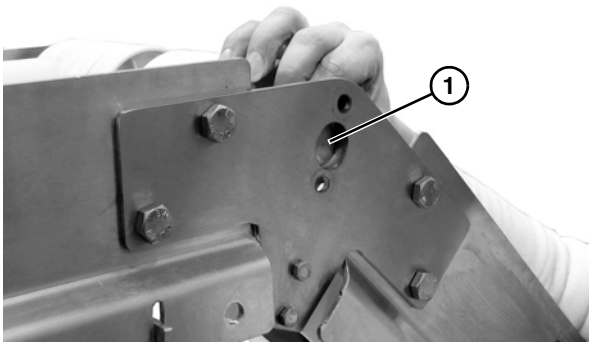
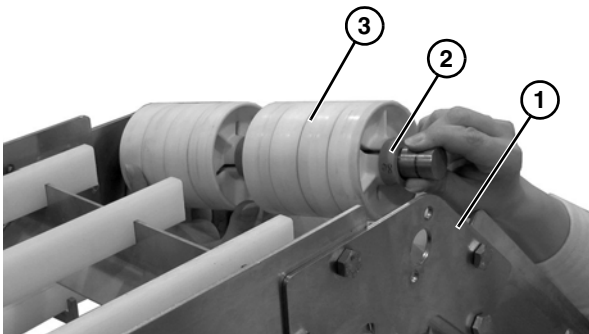

Figure 71
Figure 72
- Slide shaft (**Figure 71, item 1**) inwards to remove from knuckle frame (**Figure 72, item 1**).
Spacer (**Figure 72, item 2**) and pucks (**Figure 72, item 3**) are loose and can slide off the shaft.